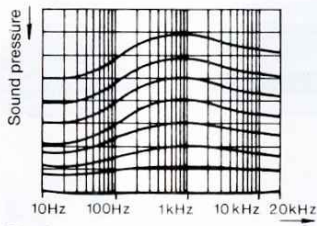

Fig. 10
As a result of the characteristics of the human ear, the sound impression produced by a given source varies as the volume is altered. Thanks to the built-in compensating "LIN" switch ⑩ and the level control ⑥ on your preamplifier, this effect can be eliminated. Fig. 10 shows approximate curves for the sensitivity of the human ear at different volume levels.